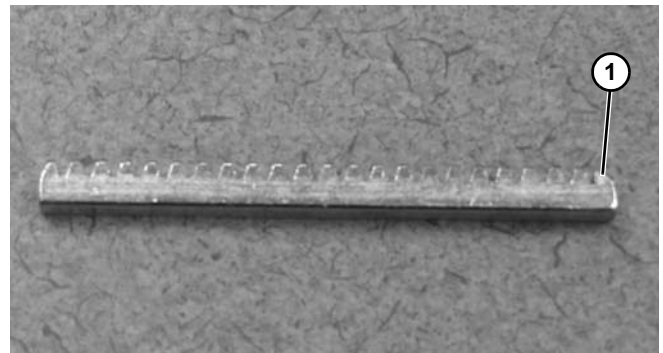

Figure 106
Make sure the bent end (**Figure 106, item 1**) of the gear rack is NOT assembled into the conveyor frame.